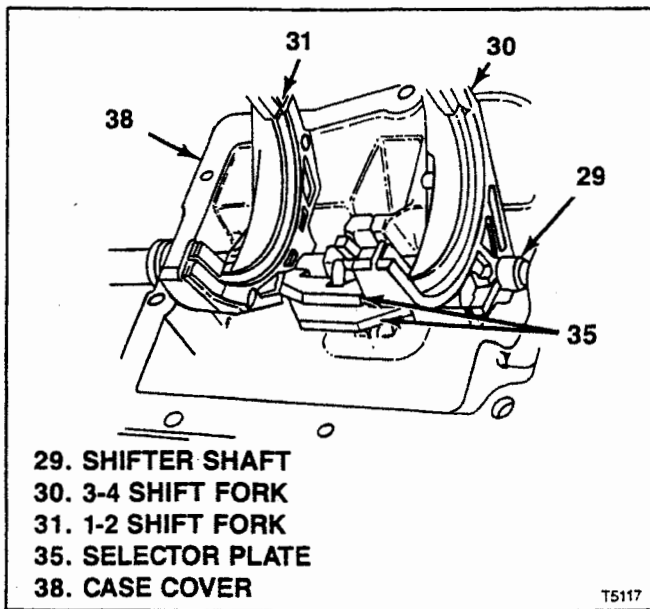

Figure 6-18. Installing T5 WC 3rd-4th Shift Fork
g. Position 3-4 shift fork (30) (with inserts and selector plate) in case cover (38) so that selector plate (35) in 3-4 shift fork is between cover and selector plate (35) in 1-2 shift fork (31). Continue to push in shifter shaft (29) completely through 3-4 shift fork and into cover (see figure 6-18).
h. Align pin holes in selector arm (28) and shifter shaft (29) and drive in selector arm pin (28) using suitable drift.
1. Rotate shifter shaft (29) so that pin hole through its free end is at 90 degree angle to open face of case cover (38).
2. Check that projection on selector arm assembly (33) is engaged in notch in selector plate (35) installed in 3-4 shift fork.
j. Apply continuous 1/16 in. (1.6 mm) bead of sealant (Neutral Cure RTV, Loctite 598) all around transmission case (117) mounting face for case cover (38). Center sealant bead between edges of face. Circle bolt holes.
l. Position case cover (38), with assembled parts, over transmission and gradually lower, engaging shift forks (30 and 31) with grooves in synchronizer collars in transmission. Lower case cover into position, moving it sideways just before it contacts transmission case (117) as required to align bolt holes.